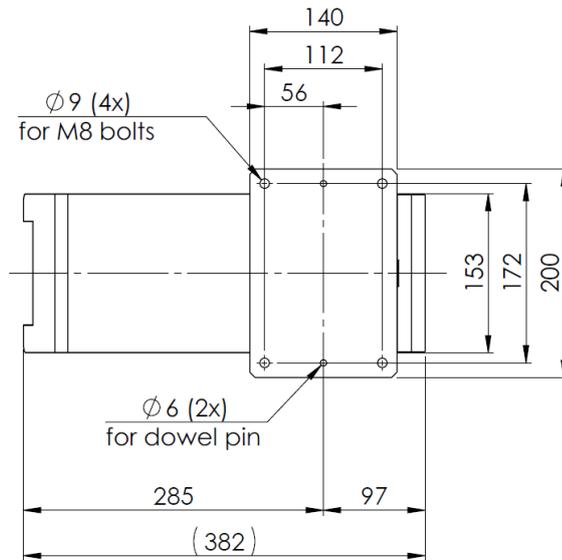

Fig. 5-3: Base plate – Mounting and positioning holes
- ▶ Prepare the mounting surface according to the drilling pattern (see Fig. 5-3).